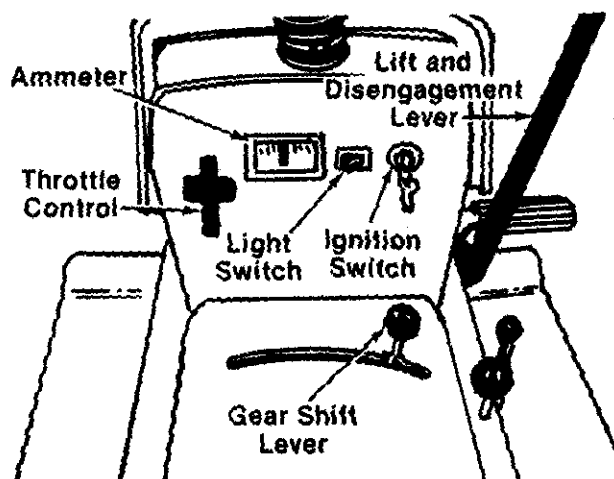

FIGURE 14.
The throttle control is used to regulate the engine speed and to activate the choke on the engine. To get maximum efficiency from cutting, the throttle should be in the FAST position when operating the mower. Pushing the throttle all the way forward past FAST, will choke the engine. See figure 14.
The gear shift lever is used to shift into one of the forward gears, "NEUTRAL" or "REVERSE." See figure 14.
Turn the key to the "START" position to start the engine. When the engine is running, let the key return to the "ON" position. To stop the engine, turn the key to the left to the "OFF" position and remove it to prevent accidental starting. See figure 14.
Push the light switch to turn on the lights. The lights will only operate when the engine is running. See figure 14.
The ammeter registers the rate of battery charge or discharge. The ammeter will register on the discharging side when starting the engine. It should register on the opposite side (charging) when the engine is running in the fast position until the battery is completely charged. With a fully charged battery or with the engine idling, the ammeter will not show a charge. See figure 14.
The lift and disengagement lever is used to raise and lower the cutting deck. Pulling it all the way back and locking it disengages the blades. The lift and disengagement lever must be in the disengaged position when starting the engine and when shifting into reverse. See figure 14.
4. Set the throttle control in the CHOKE position. See figure 14.
5. Turn the ignition key to the "START" position. When the engine is running, let the key return to the "ON" position. See figure 14.